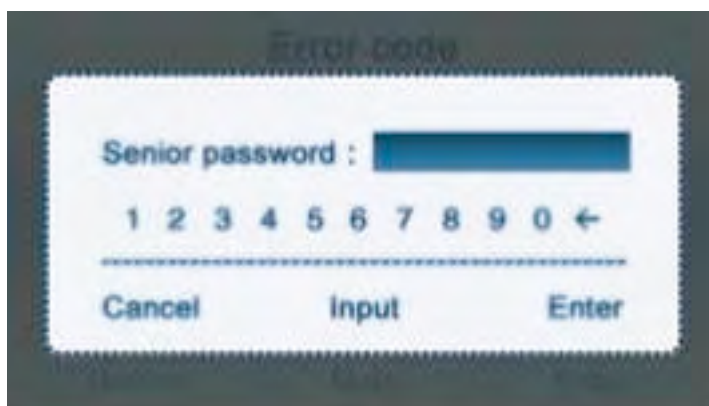

Figure 15
3. A common user can view the current faults and historic faults; a high-class user can view 10 historic faults, using the "downward" key and "upward" key. If a common user presses the "downward" key, a window as shown in Figure 15; a high-class user can enter his/her password to view ten historic faults.